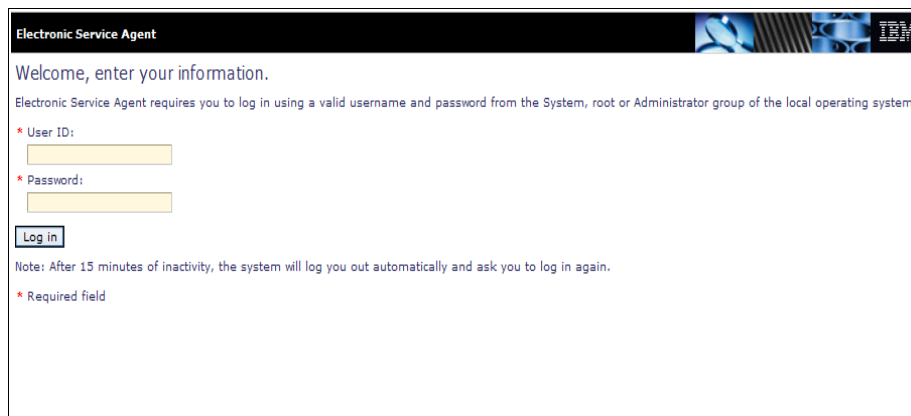

Figure 7-175 ESA login
5. Click **Launch the Electronic Service Area interface** to open the ESA window, as shown in Figure 7-175. The ESA uses the padmin User ID and password. Enter this information and click **OK**.